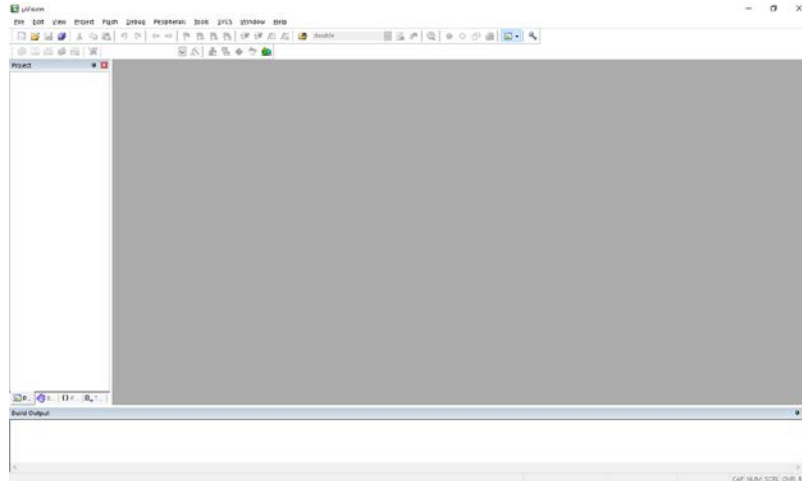

Figure 1
1. Begin by clicking on the μVision icon and get the screen shown in Figure 1. If your screen has an open project, close it by clicking on *Project*→*Close Project*.